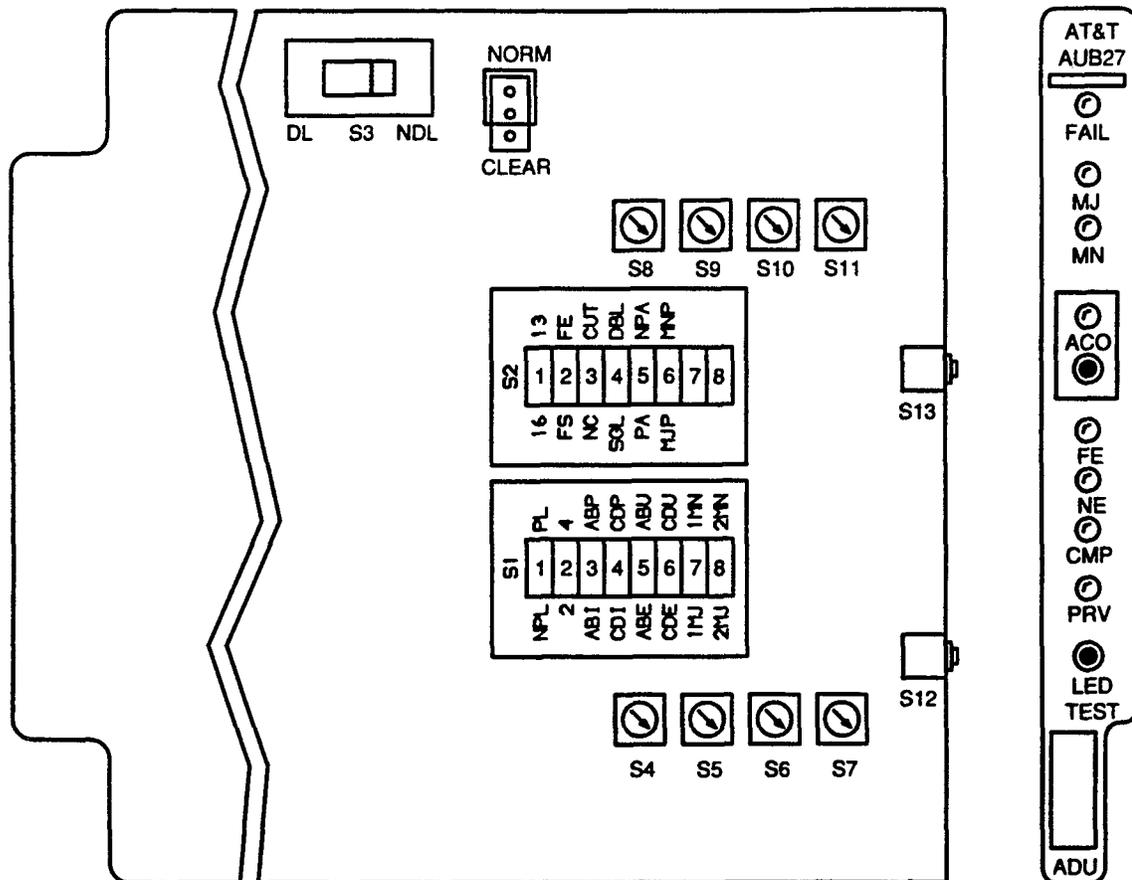

Figure 3—RT AUB27 ADU Option Switches
2. Are option switch settings on COT ADU (FIG. 1) and RT AUB26 ADU (FIG. 2) or AUB27 ADU (FIG. 3 and TABLE A) identical?